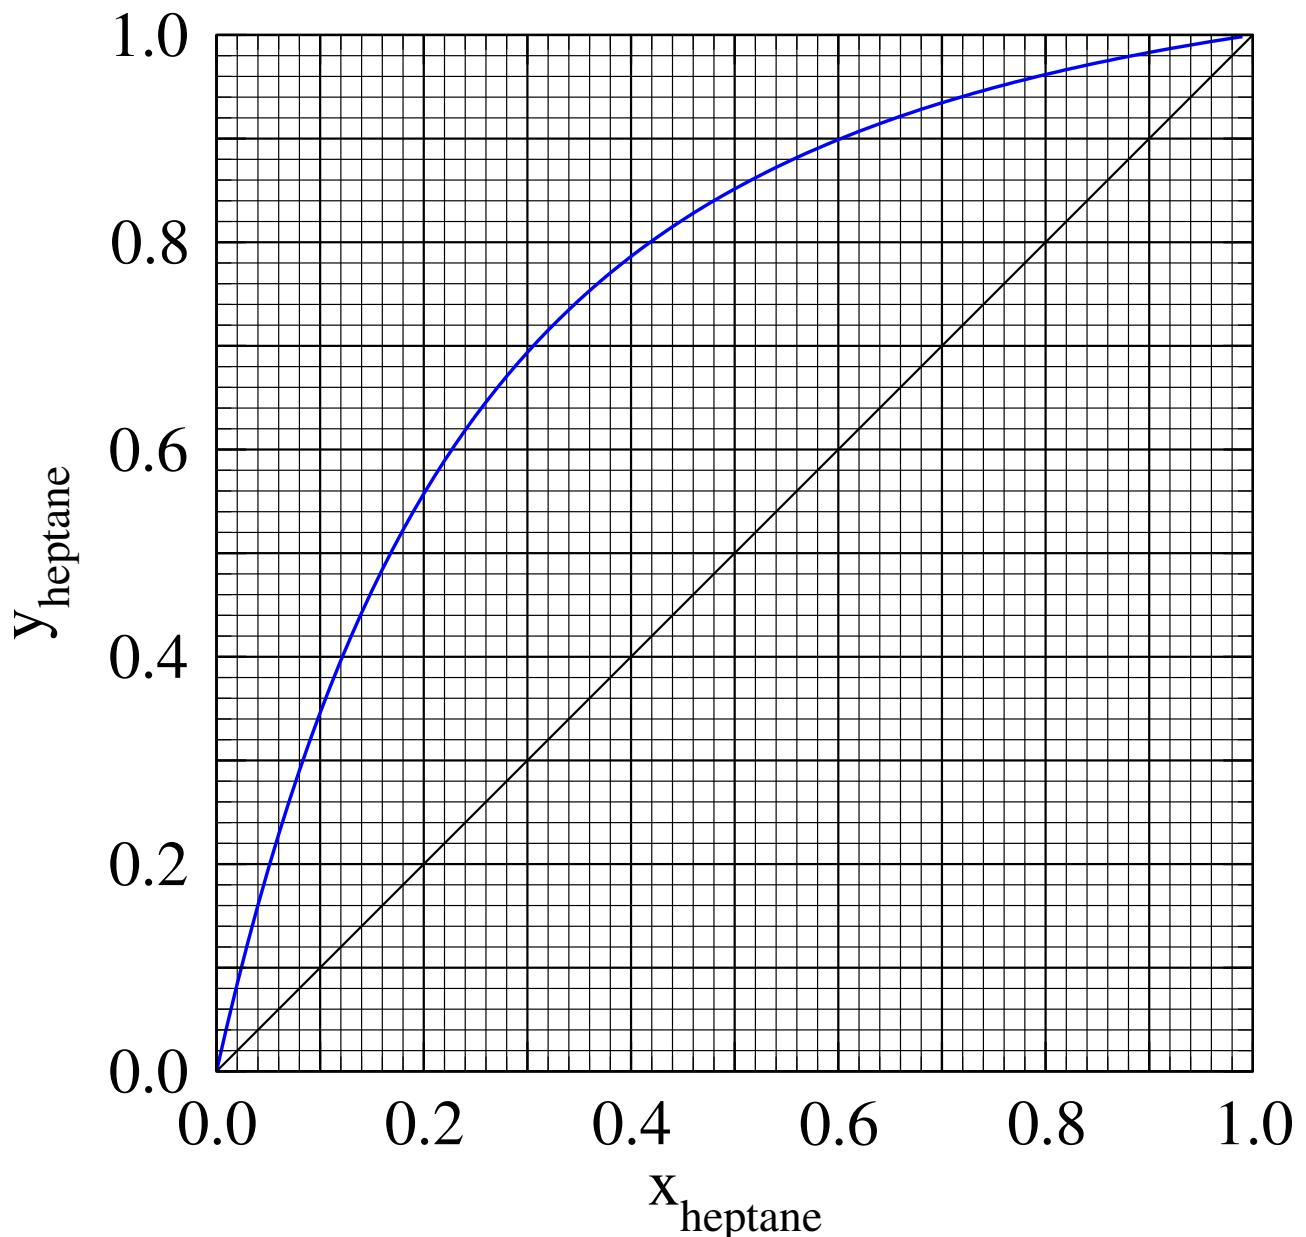

Figure 36: VLE data for the heptane-octane system at 1 atm. For use in Q. 35.
**Note:** VLE data is provided in Fig. 36.